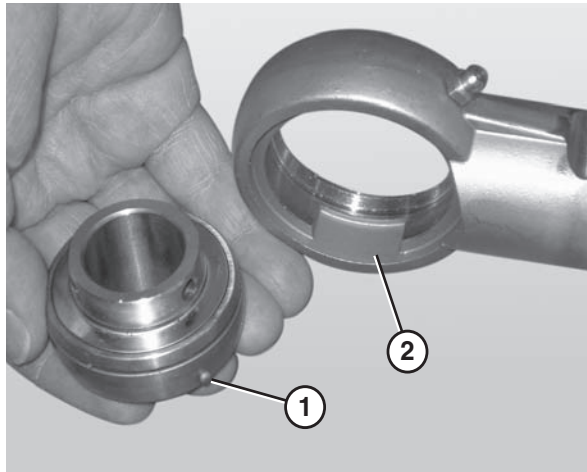

Figure 84
4. Remove the worn or damaged bearing (**Figure 84**).
When inserting the new bearing, make sure the anti-rotation notch (**Figure 84, item 1**) on the bearing lines up with the groove inside the housing (**Figure 84, item 2**).